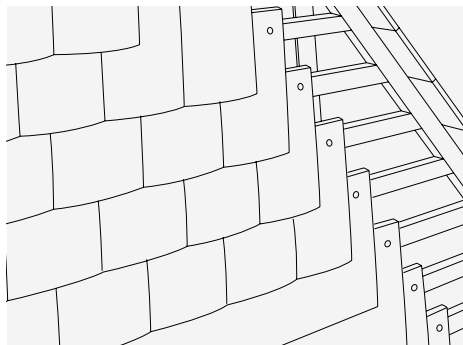

Fig. 20 – Fix battens parallel
- 1 Leave battening short of rake of verge. This allows fixing of a batten parallel to, but below rake line. The top face of this batten must be flush with the tiling battens so that tiles do not tilt up (Fig. 20).